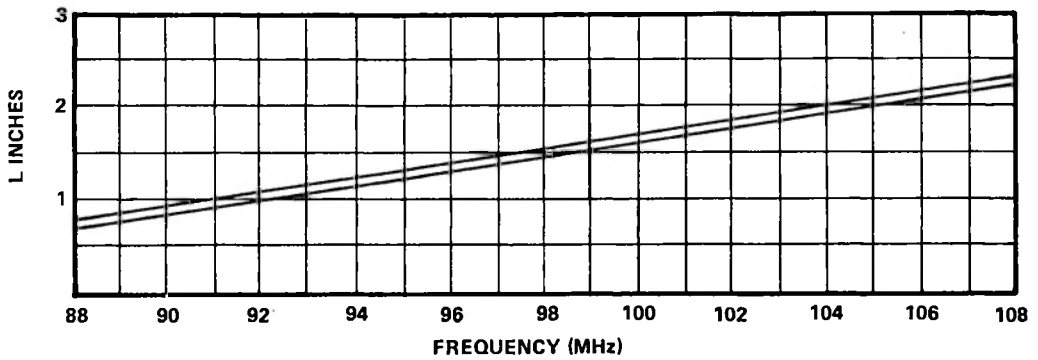

Figure 5-5. PA Neutralizing Adjustment
3. PA NEUTRALIZATION Adjust the PA neutralization bar to the desired frequency in accordance with the graph in Fig. 5-5.
5. Refer to Figure 5-5 and adjust the screen sliders LN1 and LN2. The sliders should not require an adjustment greater than $\pm 1/4$ inch from the initial setting. (A setting on the plus side is preferred.)